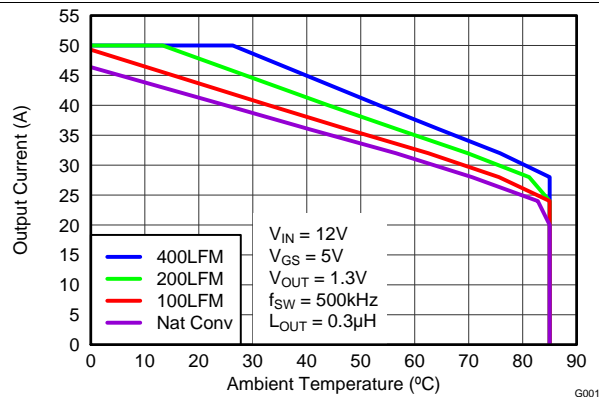

Figure 4. Safe Operating Area – PCB Vertical Mount (1)
The SOA curves in the CSD86360Q5D data sheet provides guidance on the temperature boundaries within an operating system by incorporating the thermal resistance and system power loss. **Figure 4** to **Figure 6** outline the temperature and airflow conditions required for a given load current. The area under the curve dictates the safe operating area. All the curves are based on measurements made on a PCB design with dimensions of 4 in (W) × 3.5 in (L) × 0.062 in (T) and 6 copper layers of 1-oz copper thickness.